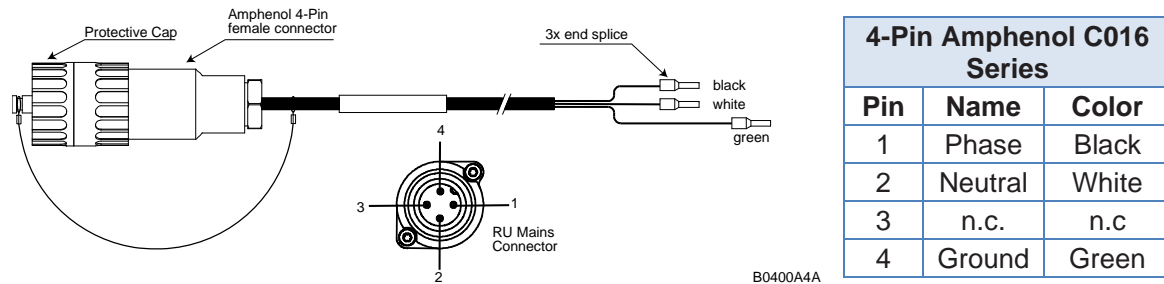
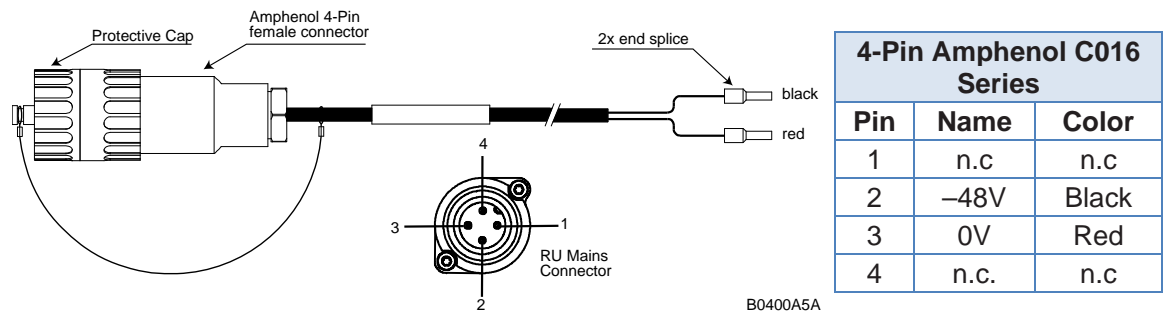
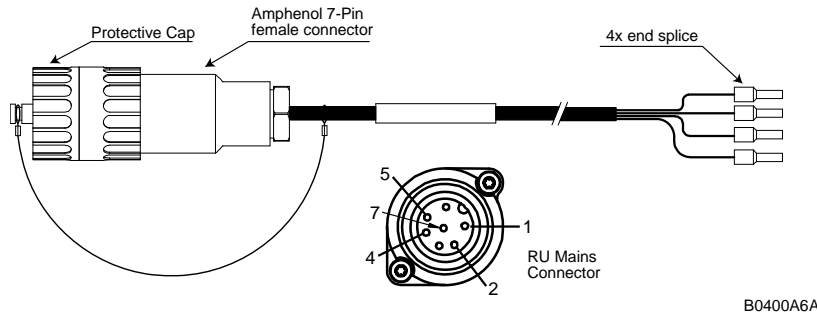

figure 4-19 AC power cable
figure 4-20 DC power cable
figure 4-21 Vdc/100 power cable
4. Wire the power cable to the junction box or receptacle. Refer to the color code and pin numbers shown in figure 4-19 (AC cable), figure 4-20 (DC cable), or figure 4-21 (Vdc/100 cable) depending on the type of power supply used by the unit.